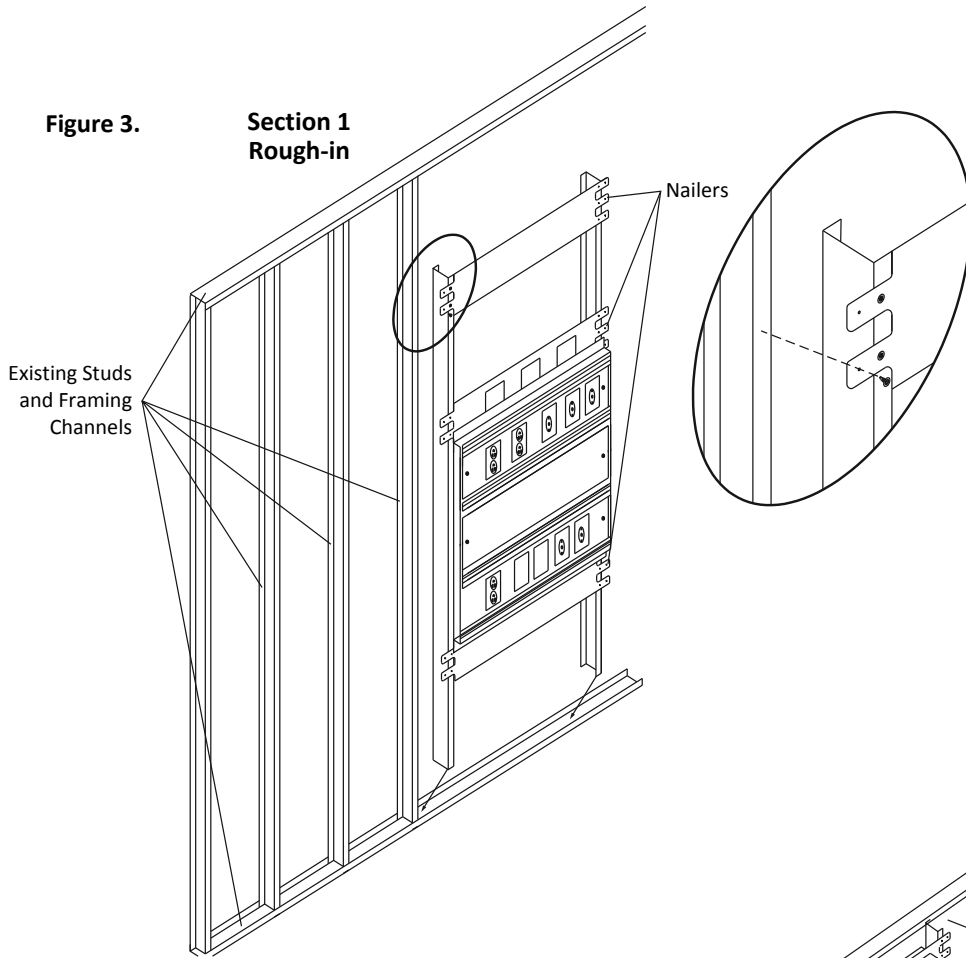

Figure 4.
2. Install Section 2 (center section) in the same manner as Section 1. Slide stud extension into top plate and attach with sheet metal screws (Figure 4).